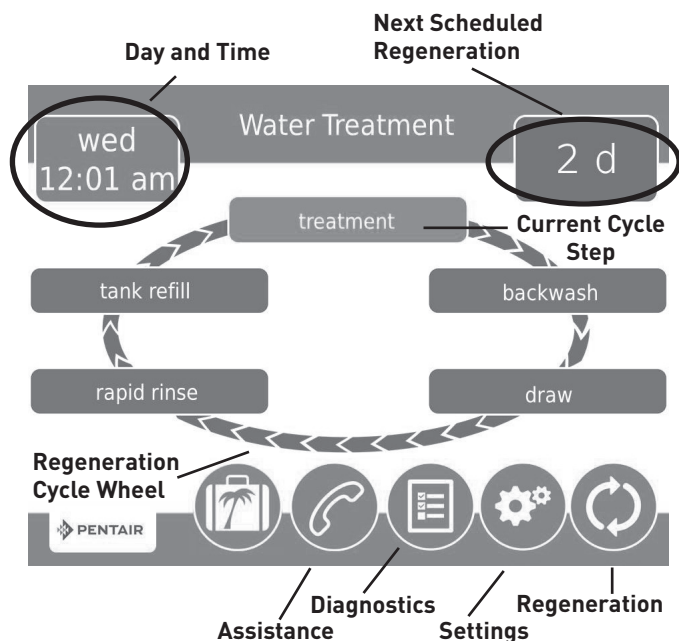

Figure 13
5. After pressing , the Home screen (Figure 13) appears.
The **Day and Time** button will be flashing, indicating that the day of the week and time need to be set. If the date and time are incorrect, press the **Day and Time** button to update to the correct day and time. The Day and Time screen (Figure 13) appears.